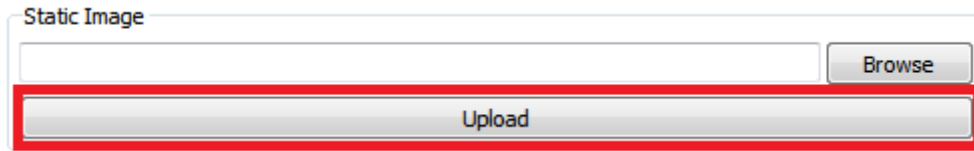

Figure 2-50. DLP LightCrafter GUI Static Image Upload Button
3. To display a 608 \times 684 pixel 24-bit RGB image, click the Browse button to select the BMP file and then click the Upload button. See Figure 2-50.